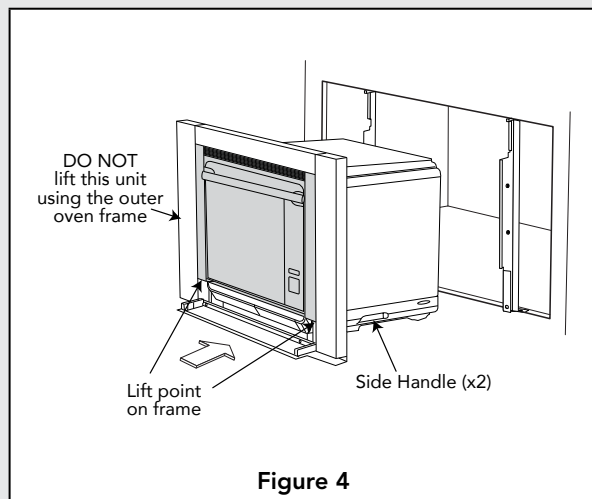

Figure 4
2. Use a minimum of 2 people to lift and install oven. Place the oven adjacent to the cabinet opening, see Figure 4. Plug the power supply cord into the electrical outlet.